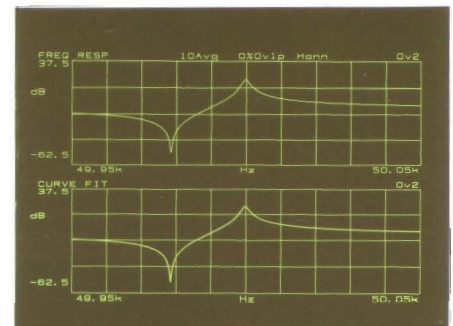

Figure 9-1
- 12. View Results** When the curve fit is completed, the message "Fit Complete" is displayed. The display will appear as shown in Figure 9-1; trace A shows the original measurement and trace B the curve fit result.